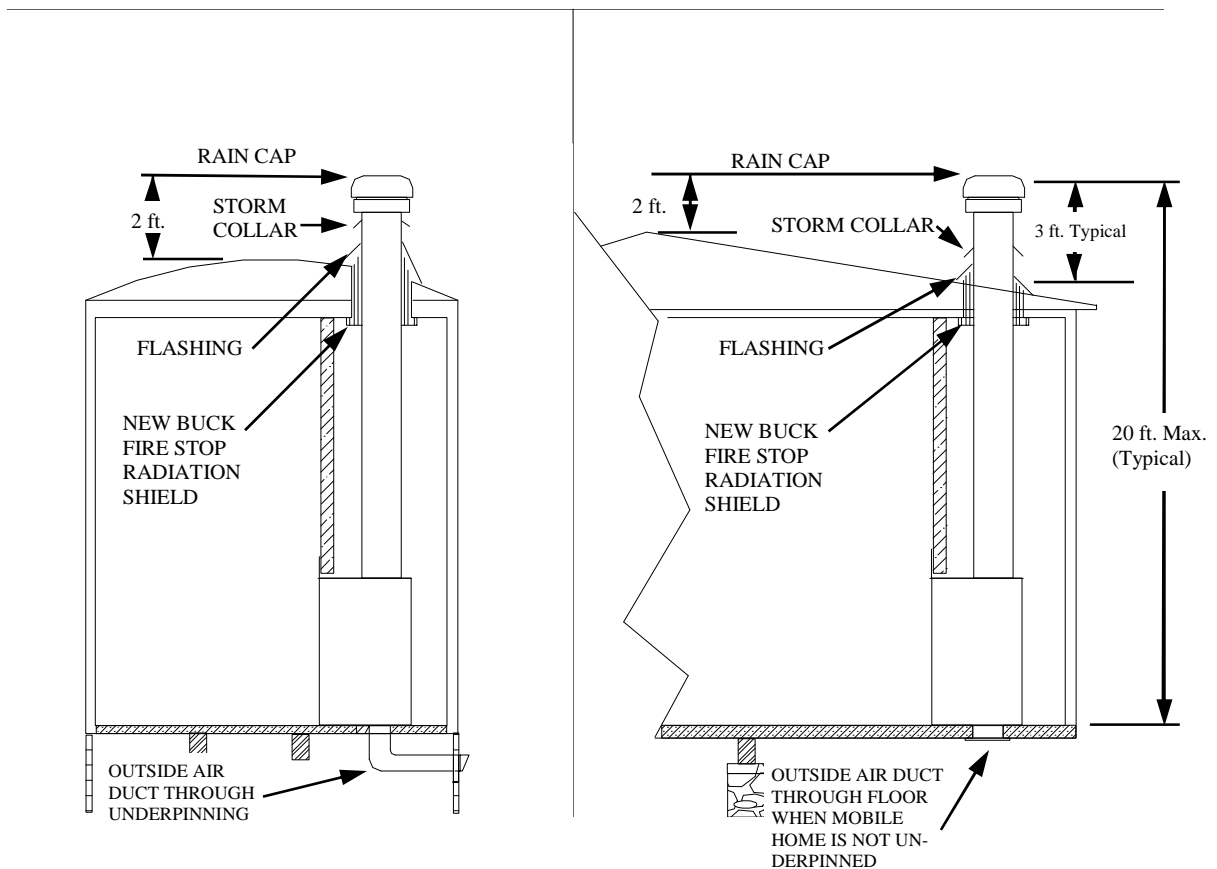

FIGURE 9
Where cabinet is to be placed, a 4 1/4" diameter hole with a 2 1/8" radius from center line must be cut through floor. Outside air duct kit #PP 70075-01 is to be installed. (See Figure 9).
3. Layout for hearth extension preparation and removal of carpet and padding . Where cabinet is to be placed, a 4 1/4" diameter hole with a 2 1/8" radius from center line must be cut through floor. Outside air duct kit # PP 70075-01 is to be installed. (See Figure 9).